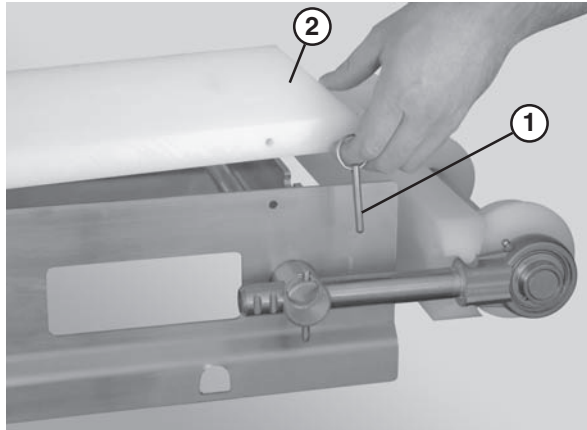

Figure 41
1. Remove the guides, if applicable, by removing the pull pins (**Figure 41, item 1**) that connect the guide (**Figure 41, item 2**) to the frame.
1. Remove the guides, if applicable, by removing the pull pins (Figure 41, item 1) that connect the guide (Figure 41, item 2) to the frame.